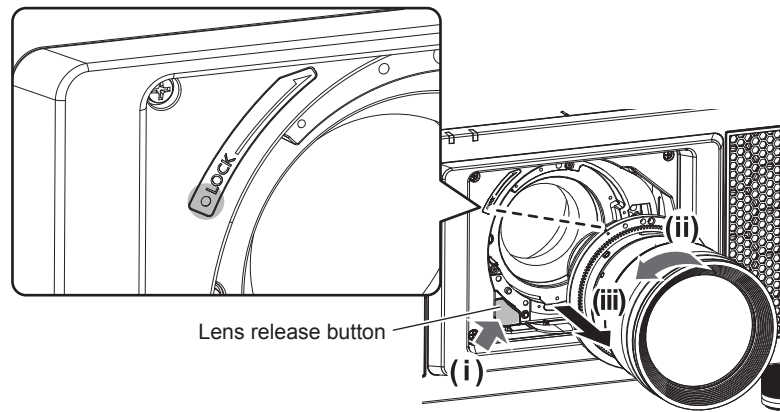

Fig. 1
2) Remove the projection lens by turning it counterclockwise while pressing the lens release button. (Fig. 1)